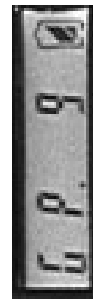

Fig 7
- Touch the CH/ON key slightly again to select the edited parameter of Group (refer to Fig 7), then use the SELECT key to specify the proper Group.